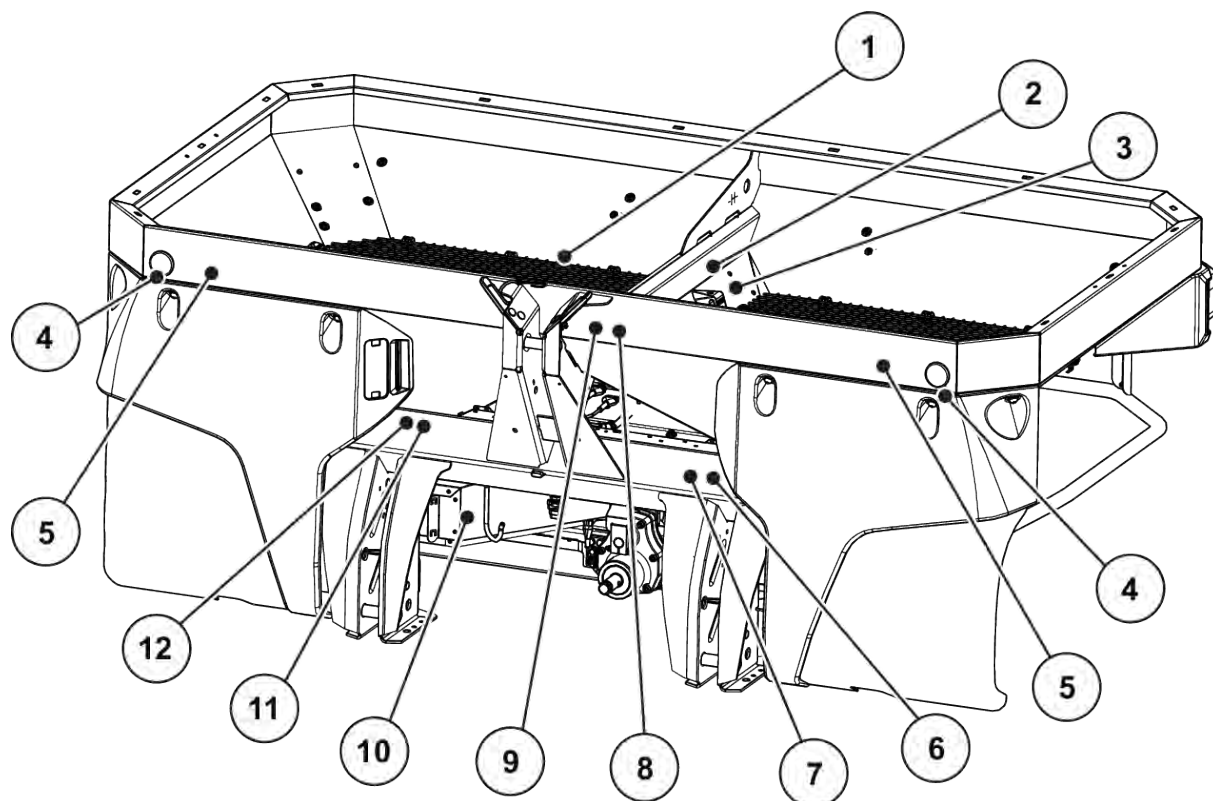

Fig. 2: Safety equipment, warning and instruction stickers, front
The machine is factory-equipped with a lighting system and front, rear, and side lighting (for attachment to the machine, please refer to *Fig. 2 Safety equipment, warning and instruction stickers, front*).
- Safety equipment - See *Fig. 2 Safety equipment, warning and instruction stickers, front*